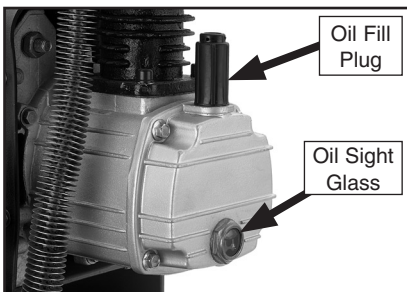

Figure 13. Oil sight glass.
3. Use a box end wrench or a socket wrench to remove the oil sight glass shown in **Figure 13**.
5. Replace the oil sight glass and remove the fill plug shown in **Figure 13**.